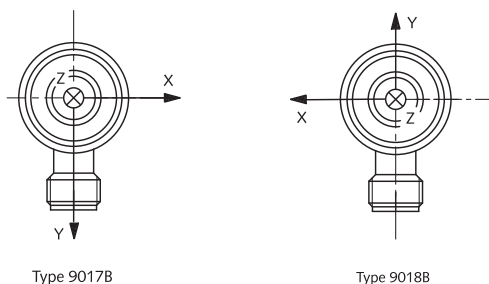

Fig. 1: Sensors Types 9017B and Type 9018B
The technical data of the Types 9017B and 9018B are identical, except that the orientation of their x- and y-axes with respect to the cable connection differs (Fig. 1). By combining both types, it is therefore possible to choose the direction of each sensors cable as required when building a dynamometer.
- 3-component force sensor with standard coordinate system (see Fig. 1)
- 3-component force sensor like Type 9017B, but with coordinate system rotated 180 ° about z-axis (see Fig. 1)